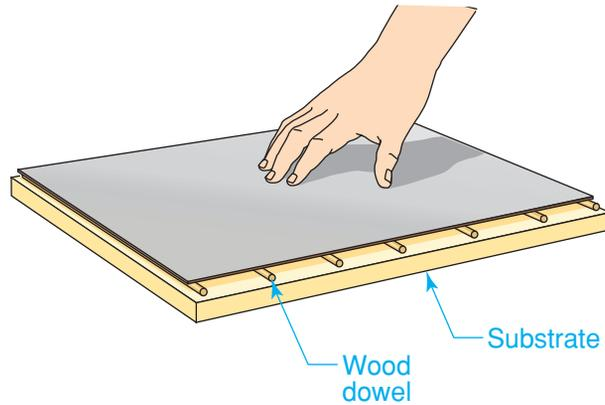

Figure 27-30 Positioning the Sheet
1. Surfaces coated with contact cement will bond instantly when they touch. To prevent this from happening while you are positioning the laminate, place several dowel rods across the top of the substrate, as shown in **Figure 27-30**.